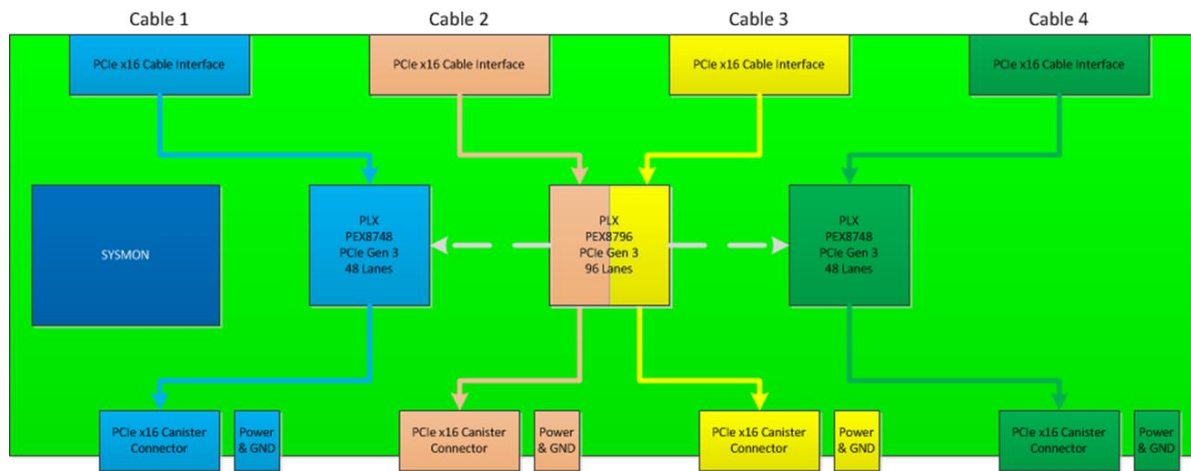

Figure 4.7 Main Backplane Connection Diagram for 4 Host Connections
- **Four host servers connected to one HDCA (See Figure 4.7)**
- **Two host servers connected to one HDCA using two HIBs each (Also Figure 4.7)**
- To minimize latency and switch hops through the main backplane, it is recommended to connect host 1 to cable Slots 1 & 4 (salmon & yellow paths in figure 4.7) and connect host 2 to cable Slots 2 & 3 (blue and green paths).